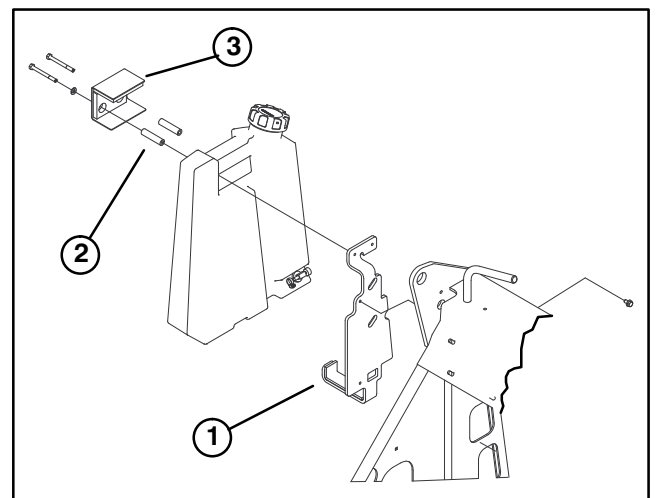

Figure 2
4. Secure new tank mount to frame with (2) 1/2" lg. flange screws, positioning as shown in figure 2. **End of screws to be approximately flush with side of tank mount.** Tighten capscrews to 175-225 in.-lb.
6. Secure tank to tank mount with a tank plate, (2) capscrews, (2) washers and (2) spacers. Spacers to be positioned inside tank plate (Fig. 2). Tighten capscrews to 175-225 in.-lb.